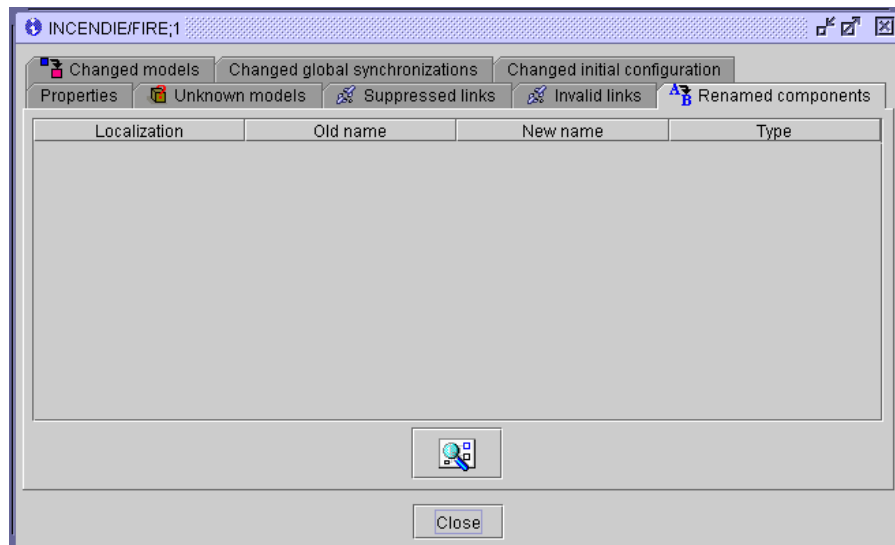

Figure 151 : Information – Renamed components tab
- Click on the **Renamed components** tab (Figure 151).